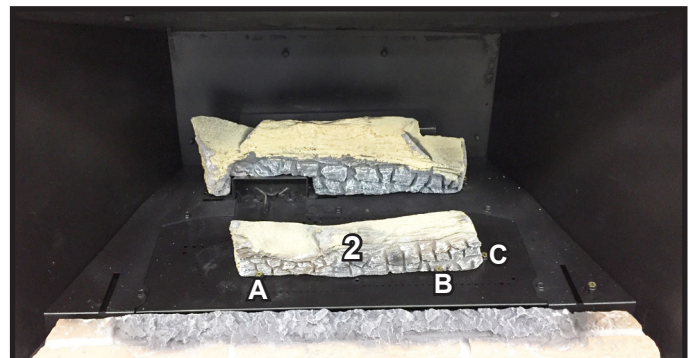

Figure 4. Log #2 Installed
**LOG #2:** With the flat spot of Log #2 to the left, place it on the burner and slide it to the right until it contacts log pin C. Then slide the log forward until it contacts log pins A and B. See Figure 4.